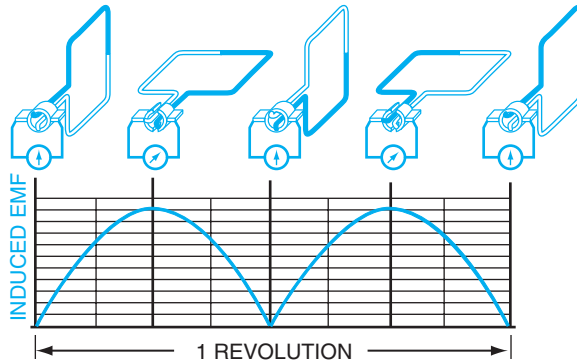

Figure 13-12 EMF from a single loop.
3. Although the current in the loop is AC, a DC exists in the load circuit. A graph of the voltage developed across the brushes of a single loop rotated in a magnetic field for one complete revolution is shown in Figure 13-12.